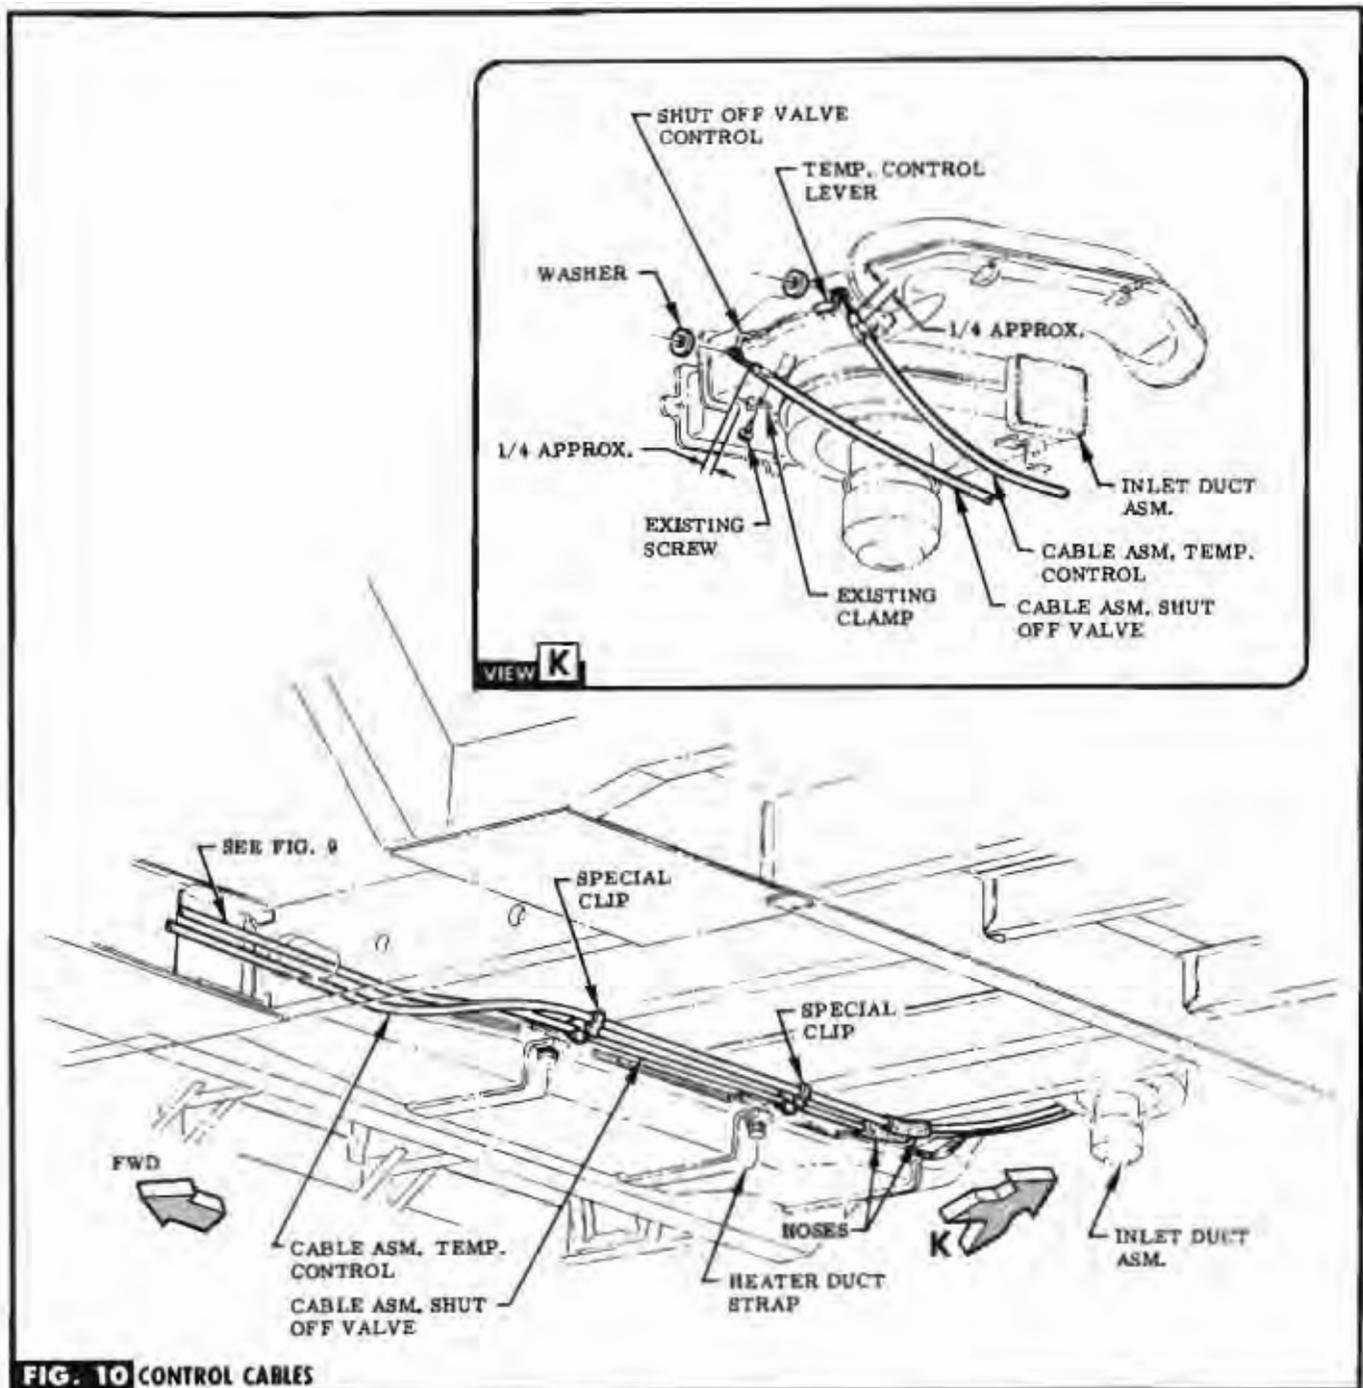

FIG. 10 CONTROL CABLES
NOTE For rear installation of cables in vehicle, See Fig. 10.
STEP 39 ROUTE CABLES THRU HOLE IN CROSSMEMBER & ATTACH TO CLIPS (IN BAG B) LEFT OF DUCT STRAPS ON INTERMEDIATE & REAR CROSSMEMBERS. SEE FIG. 10,
DUCT, SEE FIG. 10.